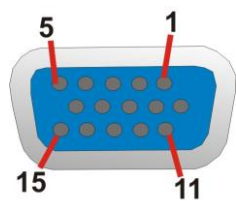

Figure 3-27: VGA Connector
- CN Pinouts: See Figure 3-27 and Table 3-28